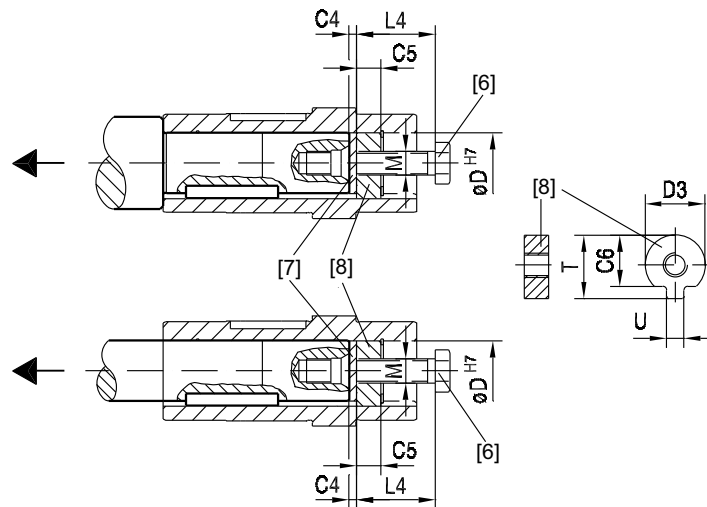

Figure 18: Removal
1. Loosen the retaining screw (6).
2. Remove the circlip (3) and, if used, the spacer tube (5).
3. According to Figure 18 place the forcing washer (7) and the locked nut (8) between the customer shaft (4) and circlip (3).
4. Re-install the circlip (3).
5. Re-install the retaining screw (6). Now you can force the gear unit off the shaft.